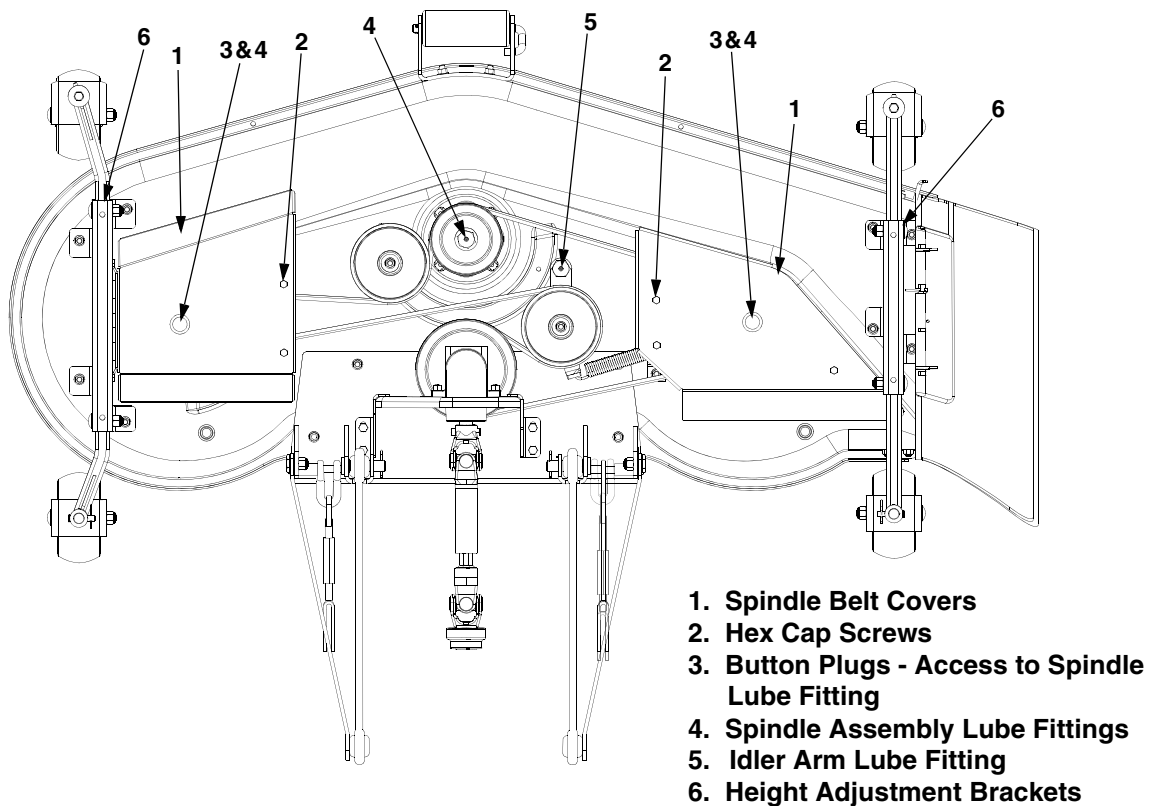
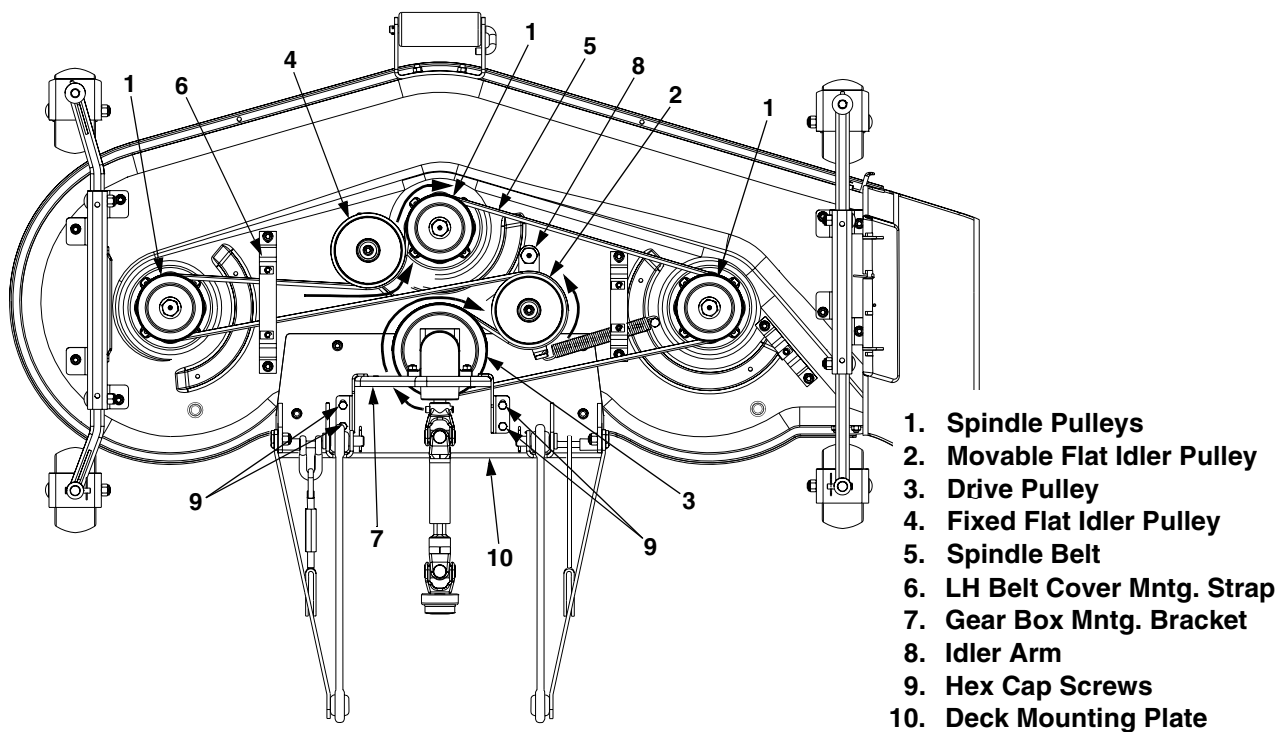

Figure 69
Figure 70
A worn spindle belt will affect the quality of cut from the mower deck and should be replaced. Referring to Figure 69 and Figure 70, replace the spindle belt as follows:
- Remove the hex cap screws securing the LH belt cover to the deck. Slide the belt cover tabs from the slots of the deck height adjustment brackets to remove the cover (See Figure 69).
WARNING: The idler arm and movable flat idler pulley (Refer to Figure 70) are under spring tension. To prevent possible injury, use caution when handling the idler pulley.
- Push the movable flat idler pulley (2, Figure 70) toward the left side of the deck to relieve tension from the belt. Slip the spindle belt off the movable flat idler pulley, then carefully release the flat idler pulley.
- Slide the belt off and over the LH spindle pulley, then pull the belt under the LH belt cover mounting strap. Refer to Figure 70.
- Slip the belt off the fixed flat idler pulley, center spindle pulley, and RH spindle pulley (Refer to Figure 70).
- Remove the four hex cap screws and hex flange lock nuts securing the gear box mounting bracket to the deck mounting plate. Refer to Figure 70.
- Lift the gear box/mounting bracket assembly and slip the belt off and underneath the drive pulley. Refer to Figure 70.
3. Route the **backside** of the belt around the movable flat idler pulley. See Figure 70.
4. Loop the belt and slide it underneath the LH belt cover mounting strap. See Figure 70.